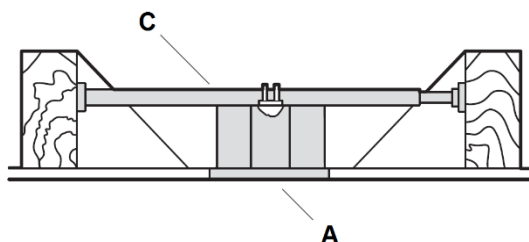

Fig. 4
To hang your fan where there is an existing fixture but no ceiling joist, you may need an installation hanger bar (C) as shown in **Fig. 4**. Make sure the hanger bar you purchase has been designed for use with ceiling fans.